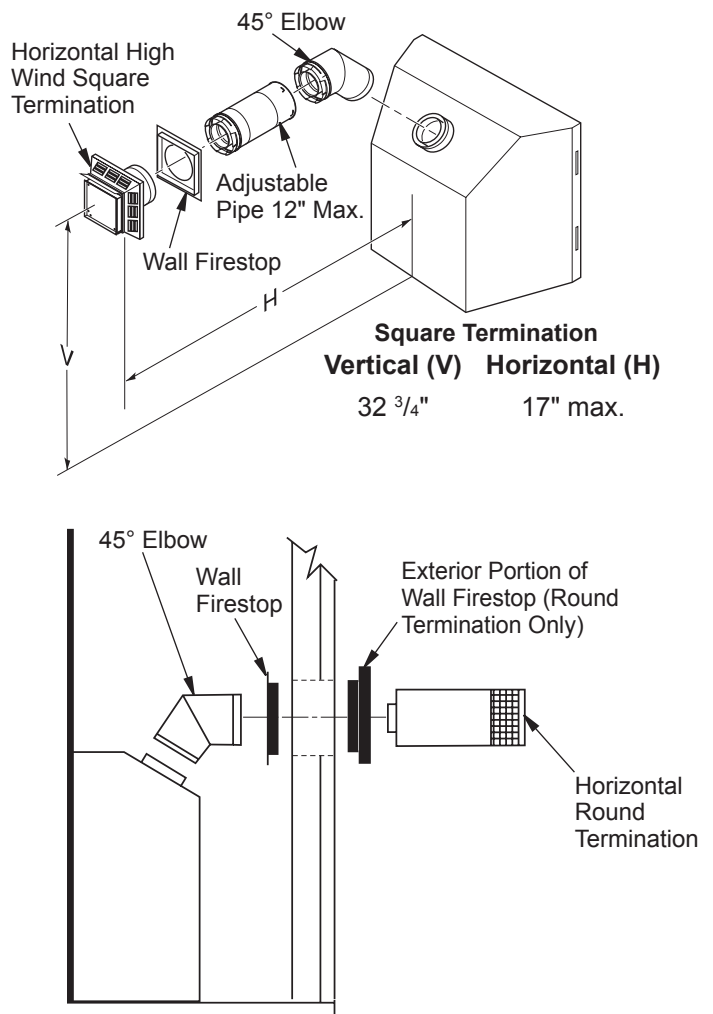

Figure 14 - Horizontal Termination Configuration for Square or Round Termination
IMPORTANT: Horizontal square terminations require only inner portion of wall firestop. Horizontal installations using round termination require exterior portion of wall firestop (see Figure 14, page 10).
1. Set the fireplace in its desired location and determine the route your horizontal venting will take. Do not secure the fireplace until all venting has been installed. Some installations require sliding the fireplace in and out of position to make final venting connections. Figures 14 through 18 on pages 10 through 12 show different configurations for venting with horizontal termination that will help you decide which application best suits your installation. Check to see if wall studs or roof rafters are in the path of your desired venting route. If they are, you may want to adjust the location of the fireplace.
Figures 14 through 18 show different configurations and alternatives for venting with horizontal termination. Each figure includes a chart with critical minimum and maximum dimensions which **MUST** be met. **IMPORTANT:** Remember that a horizontal run of venting must have a 1/4" rise for every 12" of run toward the termination.